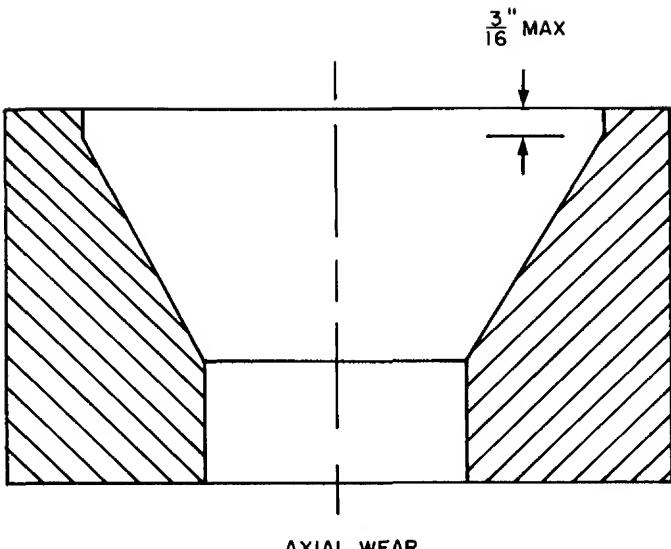

Fig. 4 - Check Bearing Wear
1. Check for bearing wear by measuring depth from large end to start of cone (Fig. 4). If wear exceeds 3/16 in., replace the bearing. Use standard parts lists for ordering new bearing.